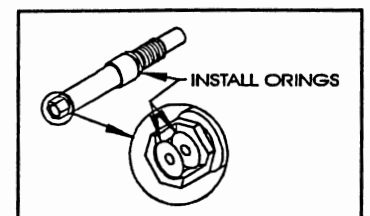

Figure 24. Guide Orings installation
- Install Guide with orings into Offset Counterbore of LLS Body as shown in figure 24. Tighten to approximately 35 lbs.in.